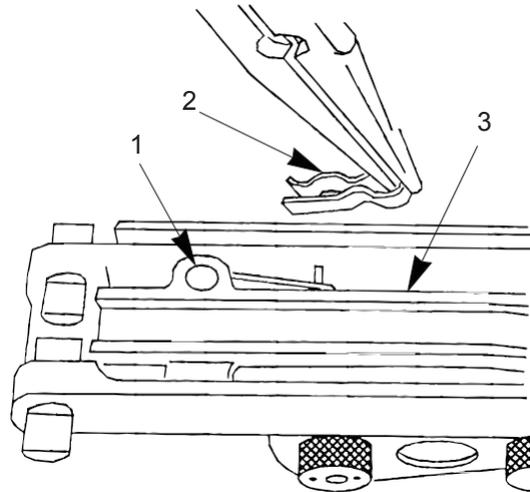

Figure 59. Retaining Clip, Feed Lever, Feed Lever Pivot.
31. Position retaining clip (Figure 59, Item 2) with legs pointed rearward and straight leg of clip toward feed lever (Figure 59, Item 3) and push into position on feed lever pivot (Figure 59, Item 1).